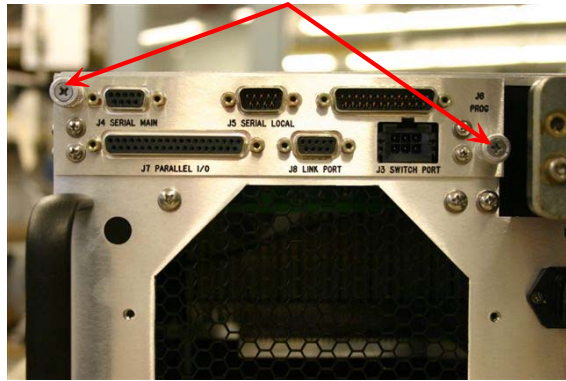

Figure 2: Loosen the two retaining thumbscrews from the RM SSPA Controller card connector plate.
- c. **For RM SSPA RF modules:** Connect a STK 300 adapter into the module's programming connector. Connect an IEEE1284 cable between the PC LPT port and the STK 300 DB25 adapter. Turn on the unit's power. Note: Repeat the programming procedure for all available modules inside a RM SSPA. Refer to **Figure 2– 7** for details.